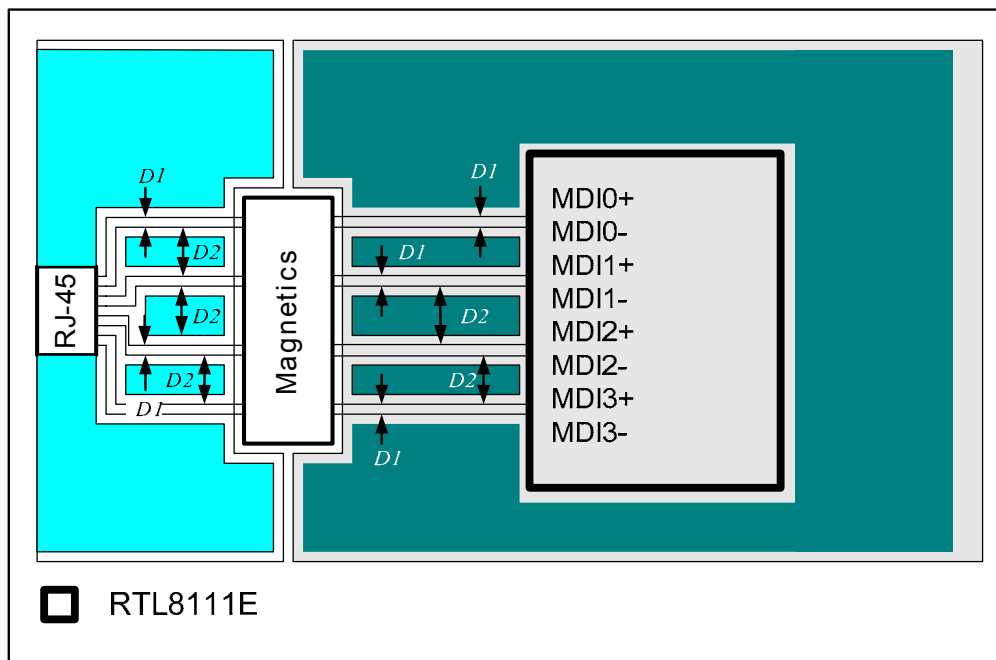

Figure 2. Signal & Trace Routing
- Traces routed from the RTL8111E to the 10/100/1000M magnetics, and to the RJ-45 connector, should be as short as possible. The 12cm maximum length between the RTL8111E and magnetics is achievable only when there is no interference. It is also very important to keep all four differential pair signal traces (MDI0+/-, MDI1+/-, MDI2+/-, MDI3+/-) equal in length. The two traces of each pair should be placed close to each other (D1) since they are differential pair signals to each other and provide a strong canceling effect on noise. The width of D1 should be calculated to have 100Ω impedance (Figure 2).
- We suggest that there should be more than 30 mil spacing between different differential pairs to minimize cross-talk coupled from other pairs (D2 in Figure 2). In addition, Ground Plane shielding can be used to separate all four signal pairs. However, a good layout should avoid the following situations: